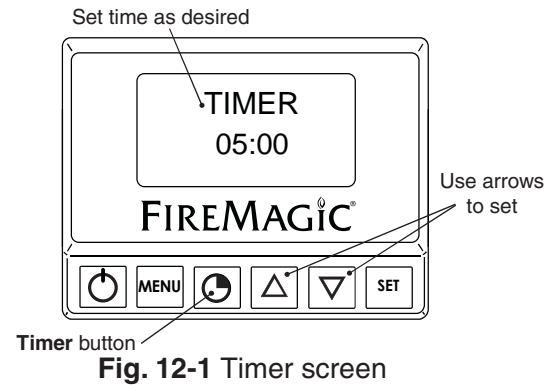

Fig. 12-1 Timer screen
1. Press the timer button. Use the arrows to set the desired amount of time (see Fig. 12-1.)